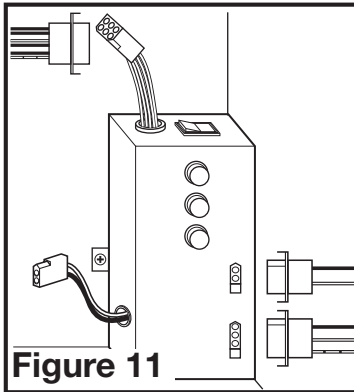

Figure 11
- 3a. **STANDARD AND MOTION SENSING MODELS:** Plug the fan's 2 pin and 3 pin quick connect motor cords into the corresponding receptacle located on the wire compartment cover. These cords will only fit one way into the receptacles (**Figure 11**).